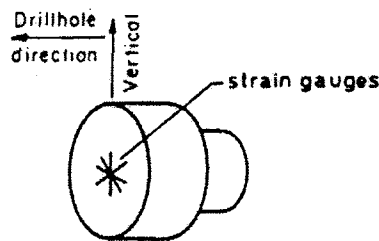

Figure 3 : the door stopper
- v Figure 3 is one of the instrument used for the determination of ground stresses in rock. What method is this instrument being used for?